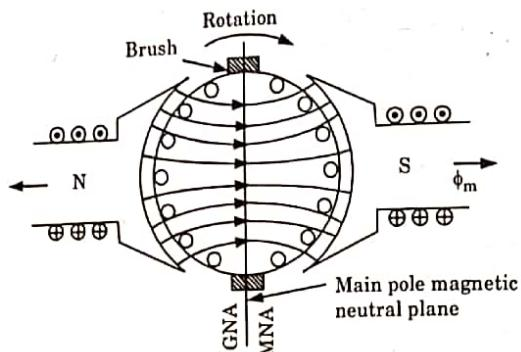

Fig. 2.9.1. Main pole magnetic flux distribution.
2. Fig. 2.9.1 shows a 2-pole DC generator. When there is no-load connected to the generator, the current in the armature conductors is zero.